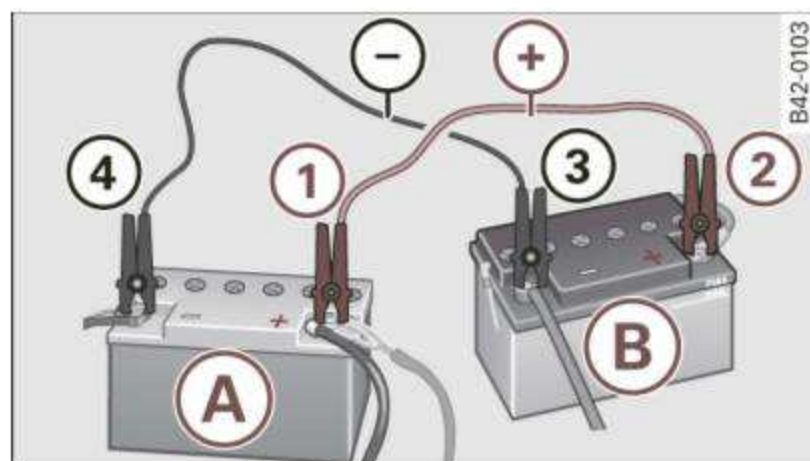

Fig. 135 Jump start using the battery in another vehicle: A - Discharge, B - Female socket
1. Connect one end of the red jumper cable ⇒ fig. 135 ① to the positive terminal of discharged battery (A).
2. Connect the other end of the red jumper cable to the positive terminal ② of the booster battery (B).